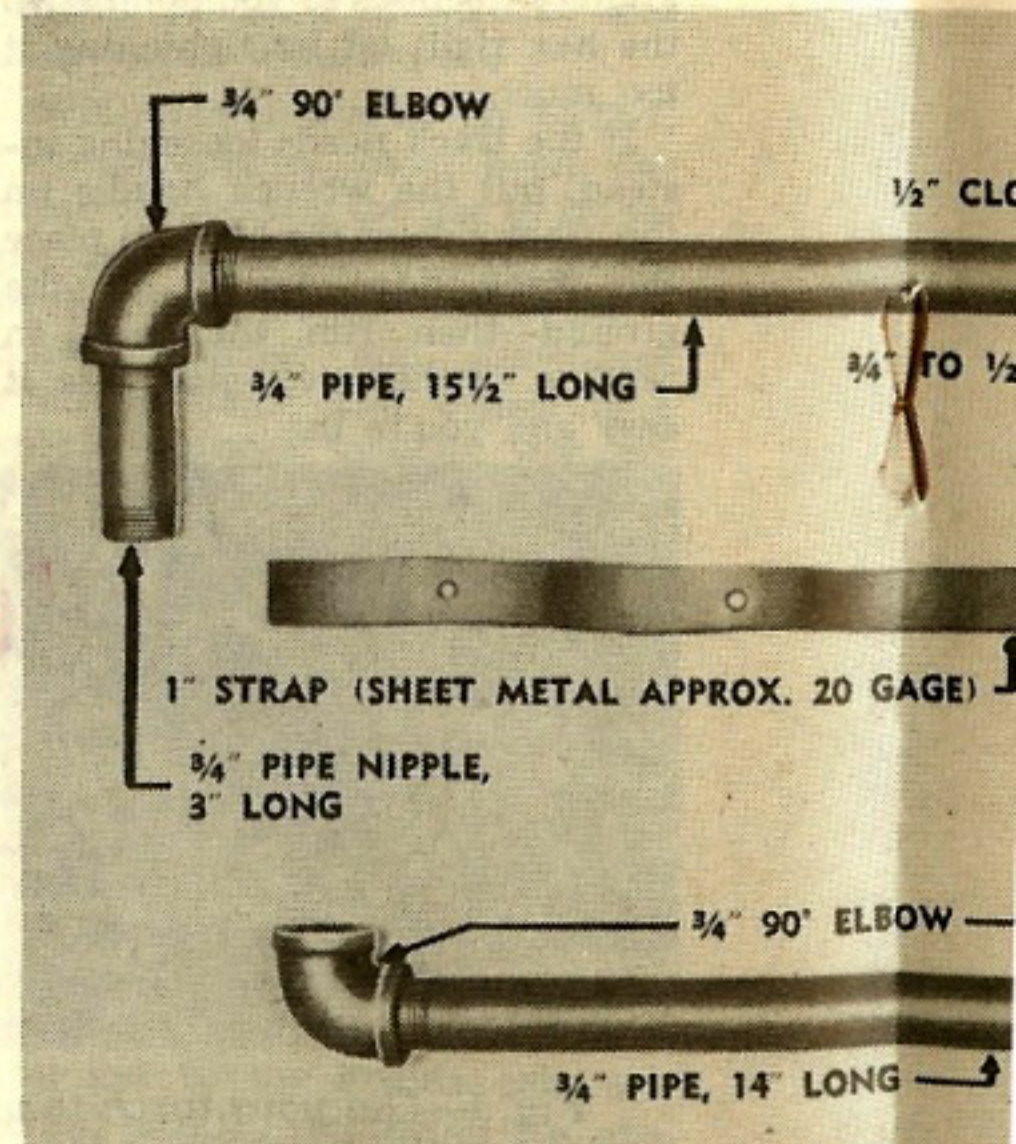

Fig. 2—These are the pipe fittings needed for the transmission oil-lines when the engine's in the stern.
Since you've got to twist the pressure valve onto a pipe, remove the pressure-valve-and-strainer bracket from the transmission by taking out the two capscrews. Put the 3"x3/4" pipe nipple where you removed elbow FOM-P335 (see Figs. 2, 3, and 4), and then add a 3/4" 90° elbow and the 15 1/2" piece of 3/4" pipe. Screw the pressure
This is what you'll need to do the job (Fig. 2) on the LVT (A) (1), (2), (A) (2), or (A) (4):